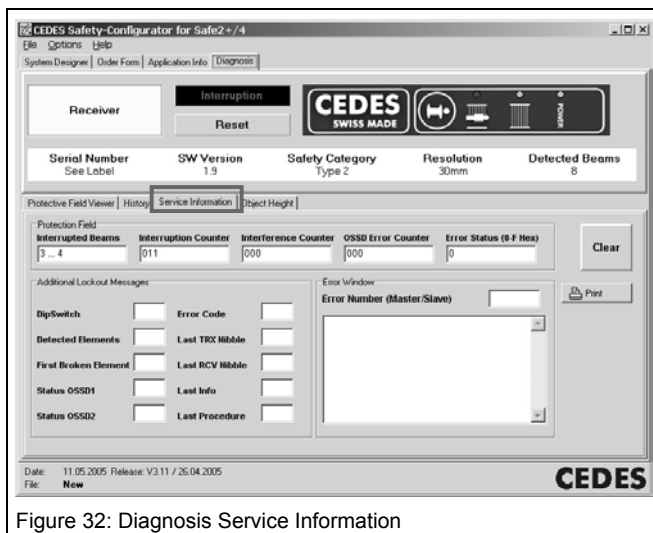

Figure 32: Diagnosis Service Information
- The suction cup is attached to the emitter controller: The software recognizes the application immediately and activates the diagnosis window "Service Information" (Figure 32).